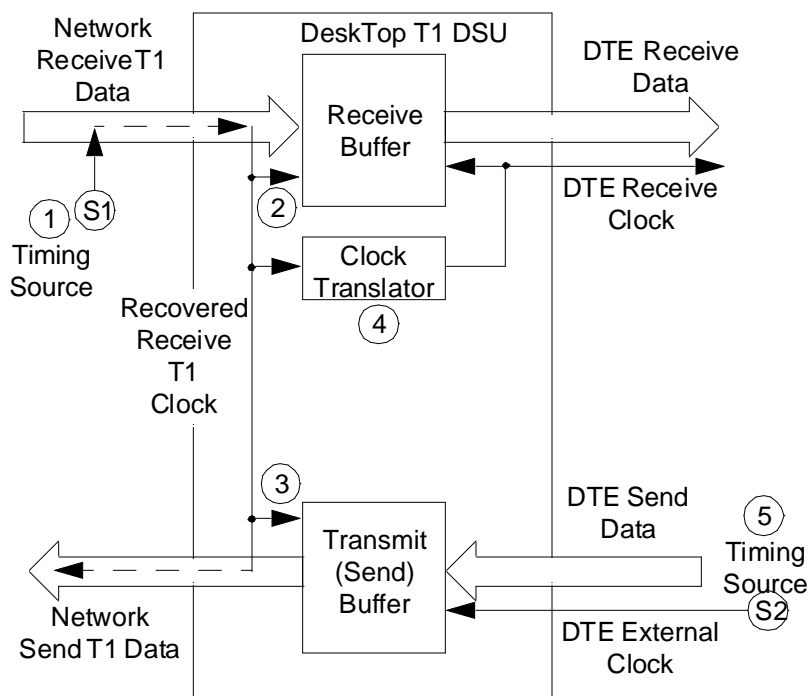

Figure C-4 DTE Split Timing
DTE Split Timing, illustrated in *Figure C-4*, is a combination of Receive Timing and DTE Timing that utilizes two clock sources. As in Receive Timing, the network (or a device at the remote end) provides one timing source (1). The DeskTop T1 DSU recovers the receive T1 clock from the network receive T1 data and uses it to clock T1 data into the receive buffer (2) and to provide the send timing source for T1 data output from the transmit buffer (3) to the network. The DeskTop T1 DSU also translates (4) the receive T1 clock to provide the receive clock signal, on the appropriate interface lead. As in DTE Timing, the customer equipment on the channel interface provides the other timing source, its own channel transmit clock signal (5) on the appropriate interface lead, but the DeskTop T1 DSU uses it for nothing else.